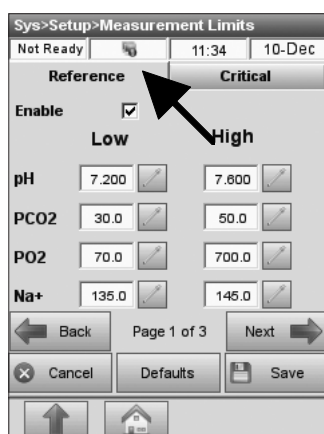

Fig. 3-25 Reference Limits
3. On the **<Reference>** tab (Fig. 3-25), select the parameter you want to change and press  to enter the new limit value. By default, reference ranges are enabled.